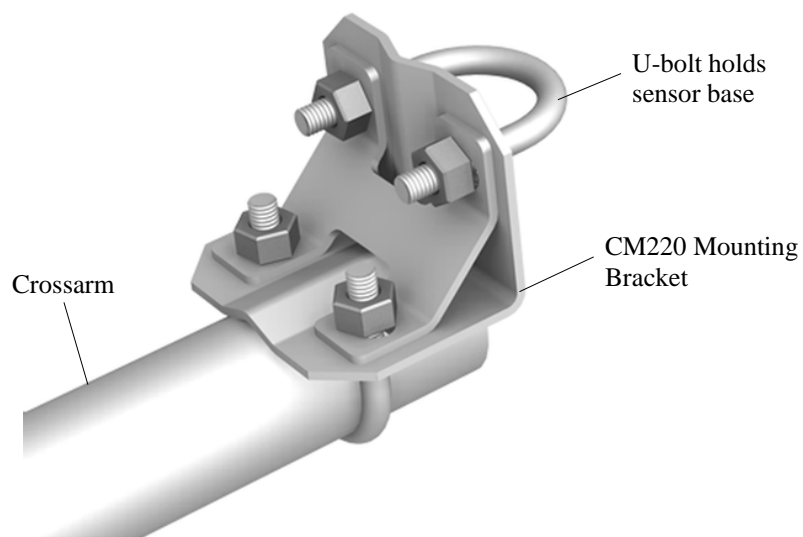

FIGURE 4-4. CM220 Right Angle Mounting Bracket
- CM220 Right-Angle Mounting Kit (FIGURE 4-4)